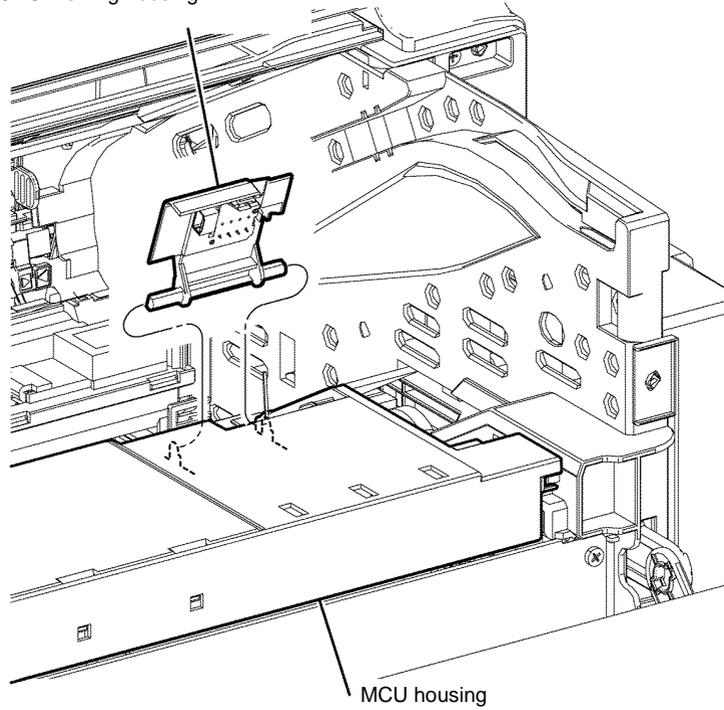

Figure 3 CRUM swing housing removal
6. Release one boss of the CRUM swing housing, then remove the CRUM swing housing from the printer, Figure 3.